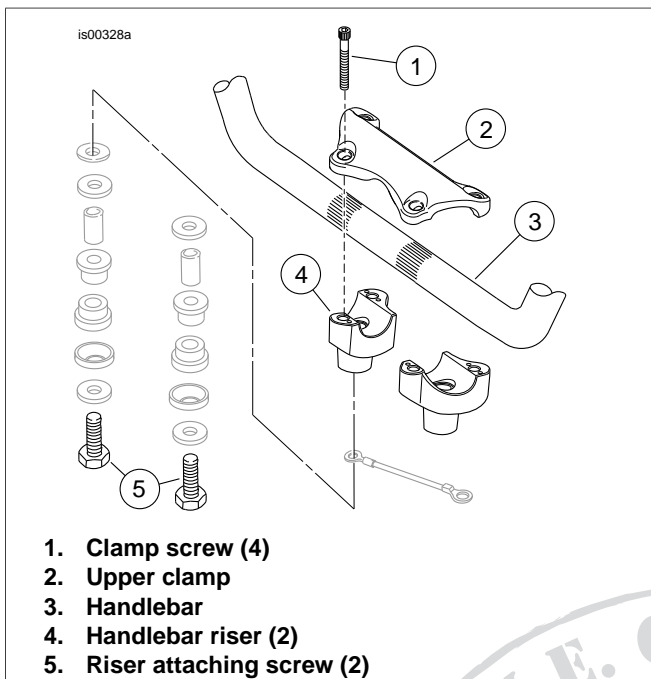

Figure 2. Handlebar Clamp and Risers
18. **For ALL models:** See Figure 2. Remove and retain the screws (1) that fasten the handlebar upper clamp (2) to the risers (4). Remove and retain the clamp. Remove the handlebar (3) from the motorcycle.